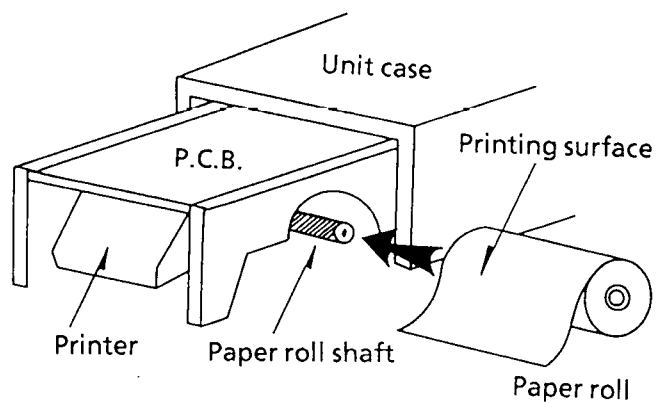

Figure 4.1
- (1) While gently pressing the front panel release latch to remove the front panel and then pull out the printer.
- (2) The outside and inside surfaces of the paper are different. The printing surface is on the outside. Set the paper roll on the shaft. (See Figure 4.1.)